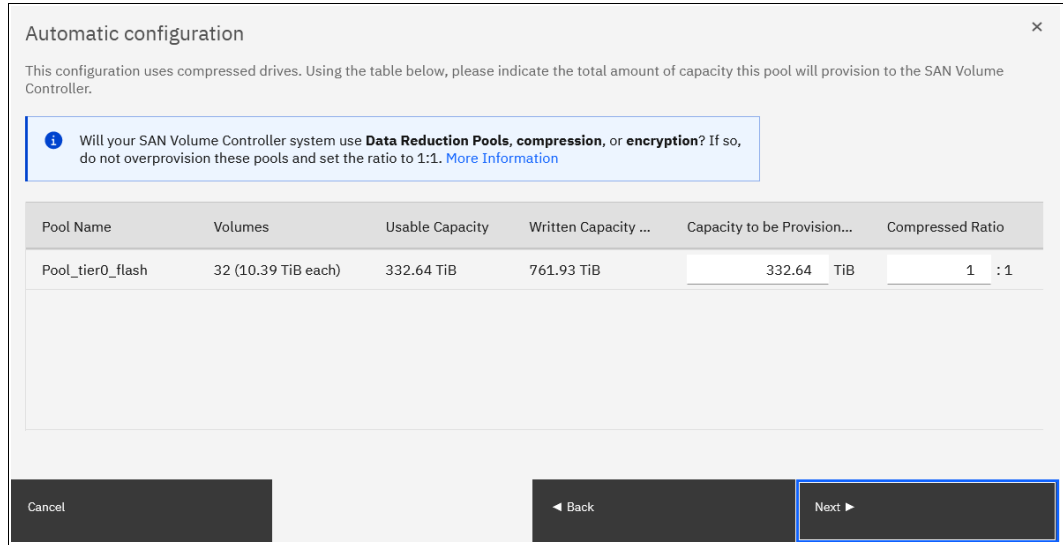

Figure 2-65 Automatic pool configuration
7. If the system uses compressed drives (FCM drives), you are prompted to enter your expected compression ratio (or total capacity that is to be provisioned to IBM SAN Volume Controller), as shown in Figure 2-65. If IBM SAN Volume Controller uses encryption or writes data that is not compressible, set the ratio to 1:1 and then, click **Next**.